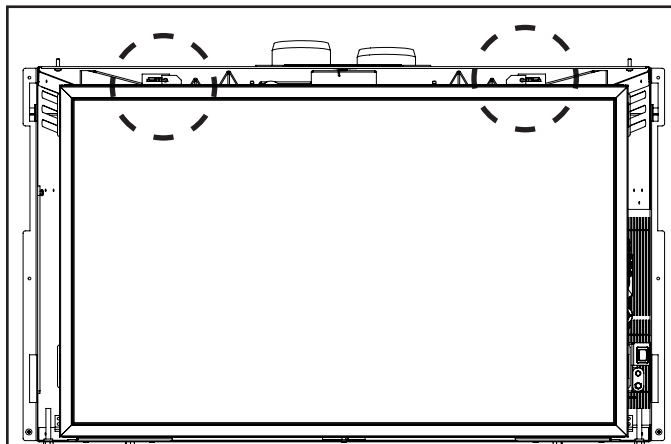
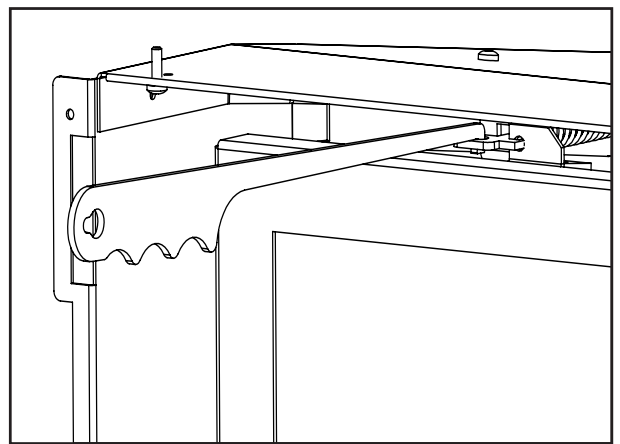
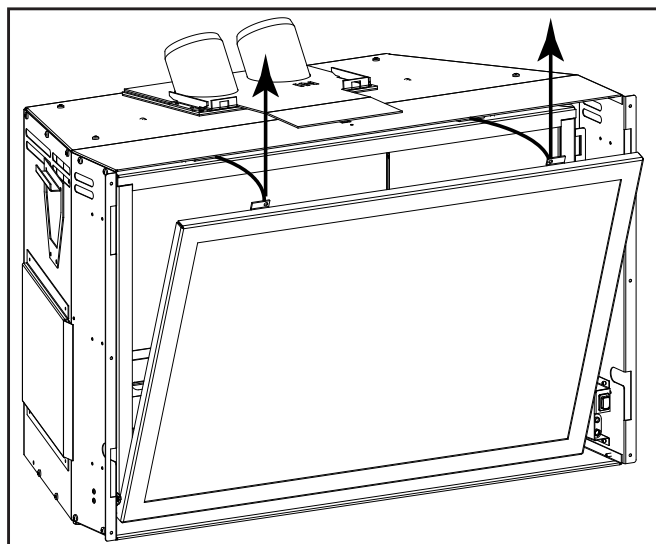

Figure 22: Door Spring Latch Locations
Figure 23: Door Latch Release.
Figure 24: Door Removal
The glass door of the fireplace is retained at the top by two spring latches (Figure 22). Release the latches by placing the hooked end of the door tool in the hole on the door latch mechanism (Figure 23) and pulling the latch forward then out to the side. When the two (2) latches have been released, tilt the top of the door forward and lift up to remove the door (Figure 24). To install the glass door simply reverse the procedure.